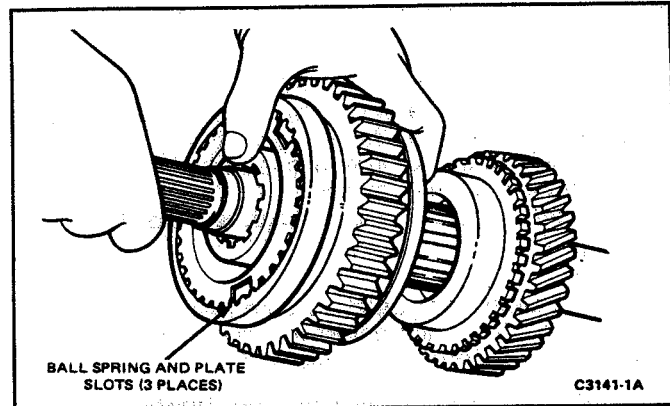

FIG. 14 Removing Second Gear Synchronizer—Assembly
4. Slide the low and second speed gear off the hub. Be careful not to lose any of the balls, springs, or plates nor the anti-rattle spring and ball (Figs. 14 and 15).